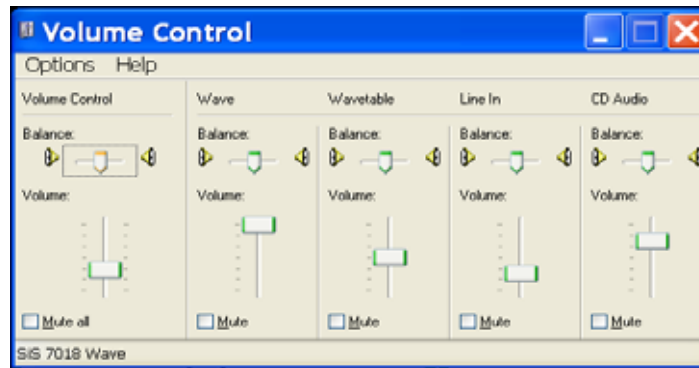

Figure 8: Volume Control Dialog Box
- 3 The *Volume Control* dialog box appears (Figure 8).